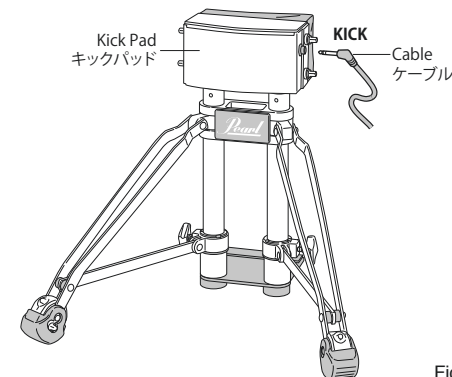

Fig.18
3. Connect the Kick Pad to the Sound Module by using the cable labeled as **KICK**. Insert the cable-end into the jack located on the side of the drum as shown (Fig.18).
ケーブル **KICK** をジャックに接続します (Fig.18)。